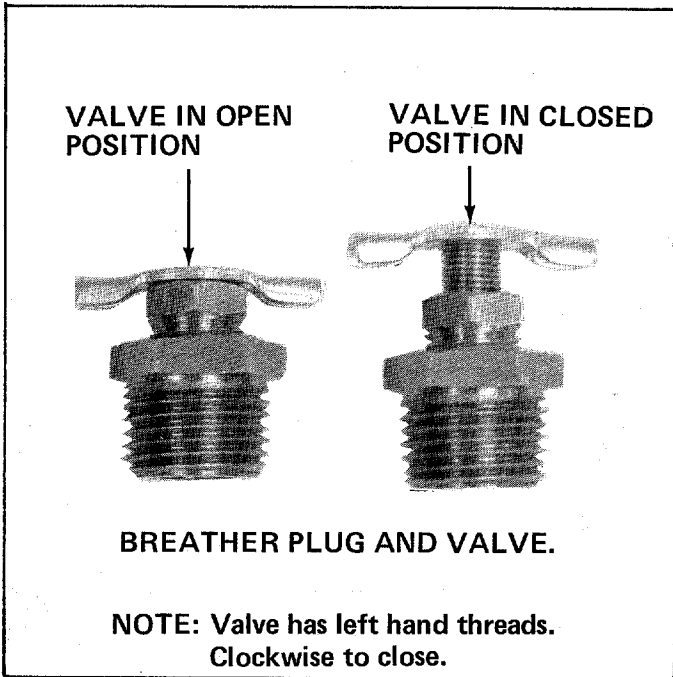

FIGURE 19
- Open the breather valve. Valve must be open when running log splitter. Valve must be closed when transporting log splitter. See figure 19.